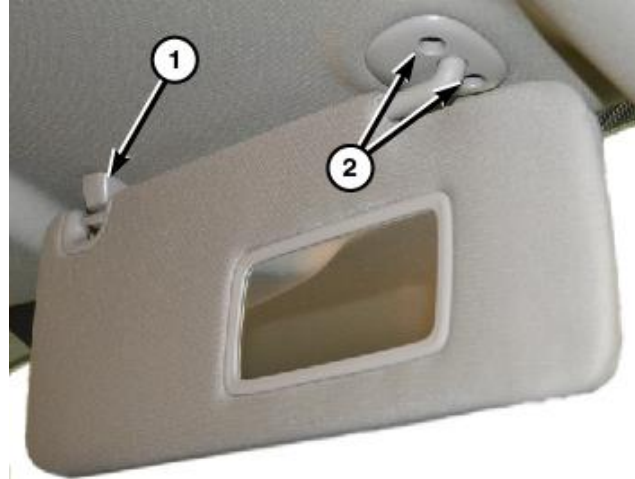

Figure 67 – Visors
20. Separate the visor from the support (1) then remove the screw and remove the visor support (Figure 67).
41. Position the visor supports (1) onto the headliner and install the screws into the mounting clips (Figure 67).
43. Position the visor to the headliner and install the screws (2) that secure the visor to the roof panel. Tighten the screws to 6 N·m (53 in. lbs.) (Figure 67).